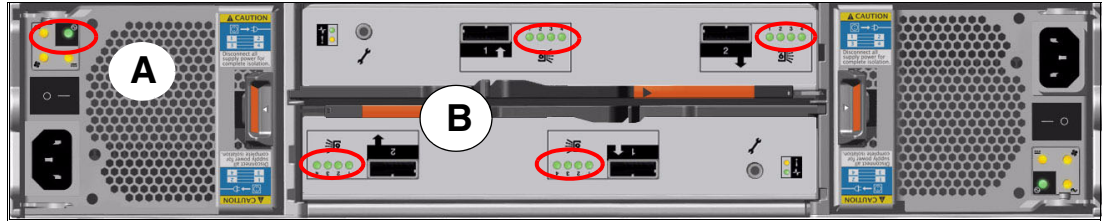

Figure 2-9 Component side view Expansion enclosure
Figure 2-9 shows the components of the expansion enclosure.
The expansion enclosure power supplies have a single power lead connector on the power supply unit. The PSU has an IEC C14 socket and the mains connection cable has a C13 plug. As shown in Figure 2-9, the PSU has one green status LED indicator (A) to show it is powered on and working properly.
Each port connects four SAS physical links (PHYs) to the drives. As shown in Figure 2-9 there is an LED associated with each PHY in each port (eight LEDs in total per canister). The LEDs are green and grouped together next to the ports (B); for each port they are numbered 1 through 4. These LED's indicate when there is activity on the PHY.